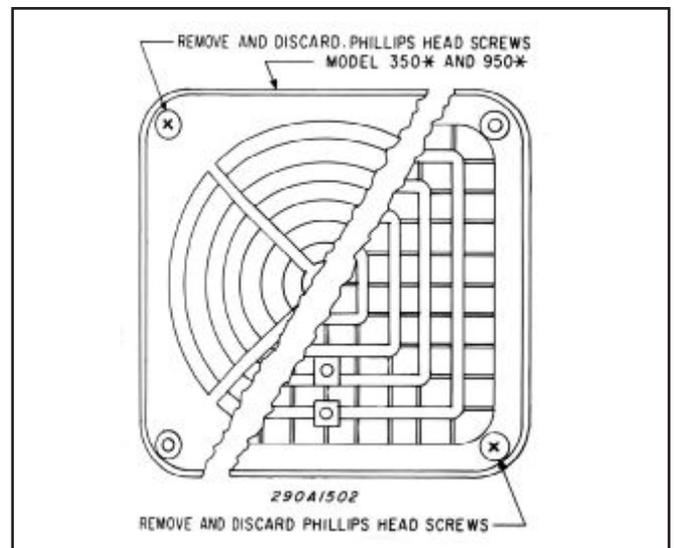

Figure 2.
6. Remove and discard the two Phillips head screws from the front of the horn, as indicated in figure 2.